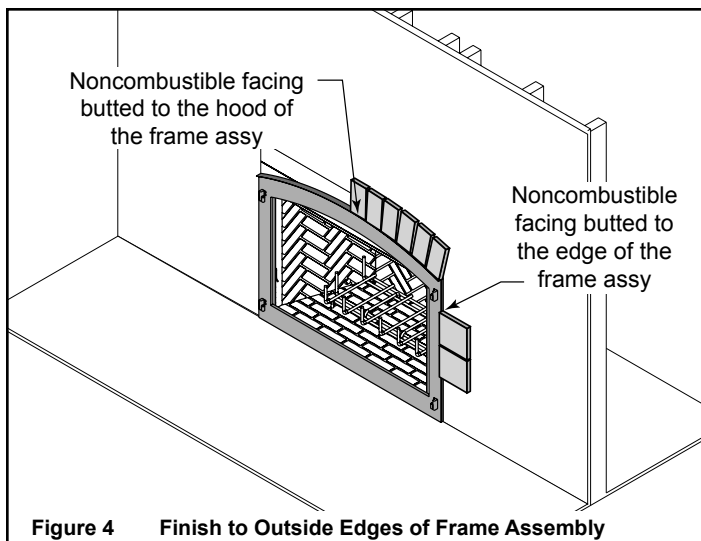

Figure 4 Finish to Outside Edges of Frame Assembly
- F. Install the noncombustible finishing material. Butt to the sides and top arched hood of the frame assembly. Refer to Figure 4.